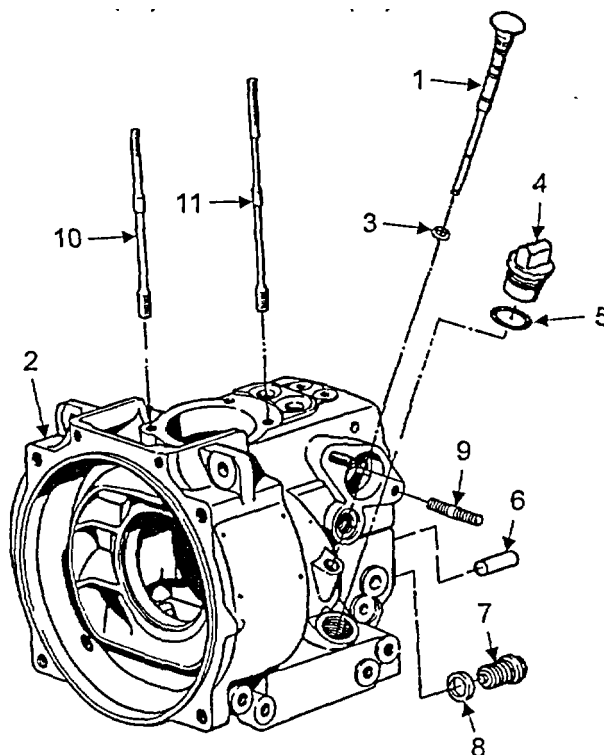

FIGURE 5-52. CRANKCASE
- a. Remove dipstick (Figure 5-52, Item 1) from crankcase (2). Remove and discard O ring (3).
- b. Remove cap screw (4). Remove and discard O-ring (5).
- c. Remove cylinder pin (6)
- d. Remove oil drain plug (7). Remove and discard gasket (8).
c. Inspect two studs (Figure 5-52, Item 9), two studs (10), and two studs (11) for thread damage or cracking. If damaged, replace studs
a. Lubricate gasket (Figure 5-52, Item 8) with lubricating oil and install on oil drain plug (7). Install oil drain plug.
b. Install cylinder pin (6). c. If damaged, remove two studs (10) and two studs (11) and install new studs.
d. If damaged, remove two studs (9) and install new studs
e. Lubricate O-ring (5) with lubricating oil and install on oil filler cap (4). Install oil filler cap.
f. Lubricate O-ring (3) with lubricating oil and install on dipstick (1). Install oil dipstick in crankcase